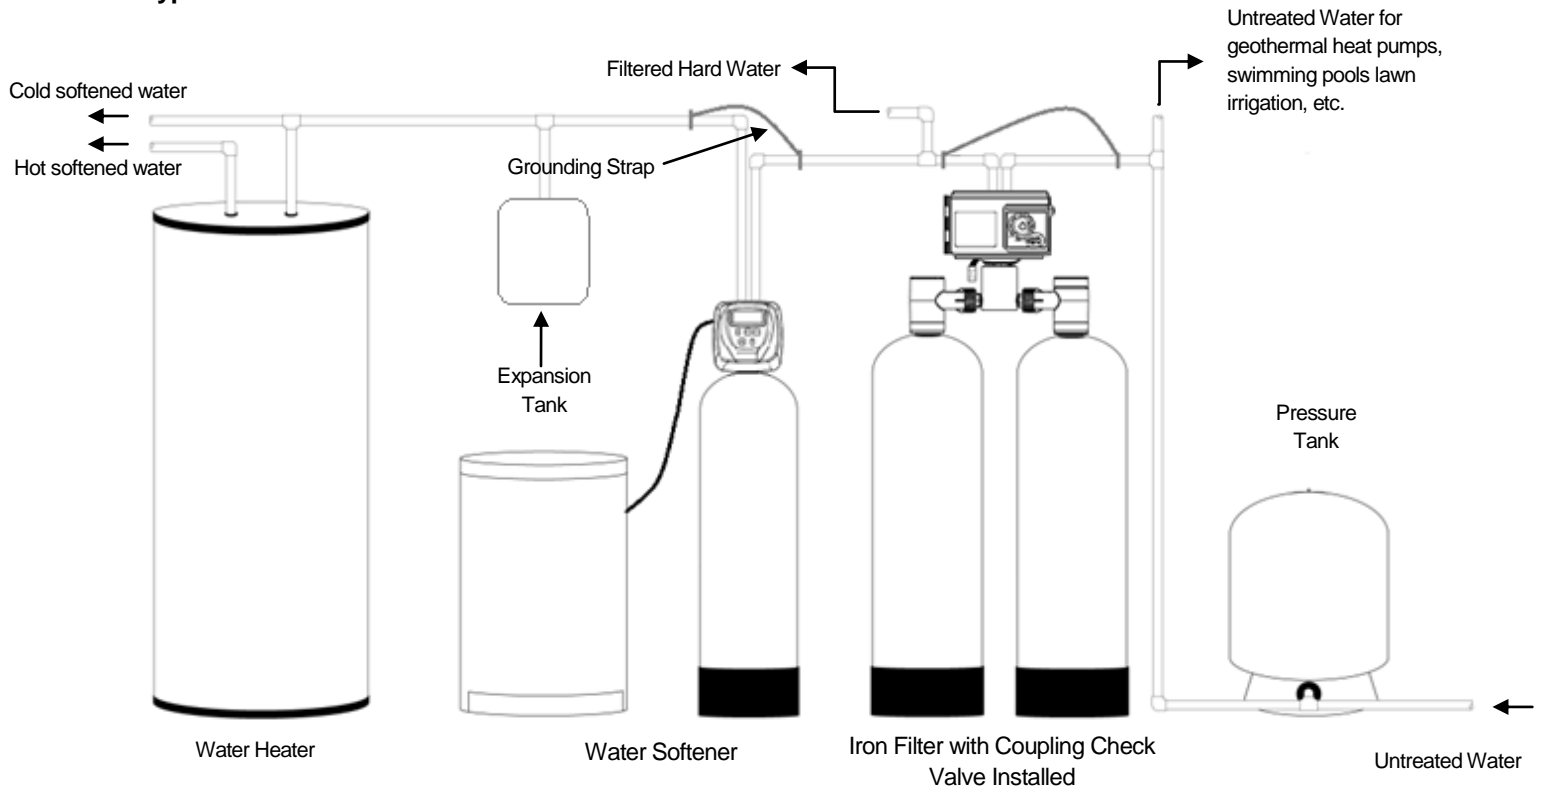

FIGURE 1: Typical Installation
7. Appliances requiring extended periods of continuous or high flow water use (i.e. geothermal heat pumps, swimming pools, lawn irrigation, outside hose bibs, etc.) should bypass the filter and a spring check valve should be installed on the filter inlet to prevent backflow of air from the aeration tank (see installation diagram Fig. 1).